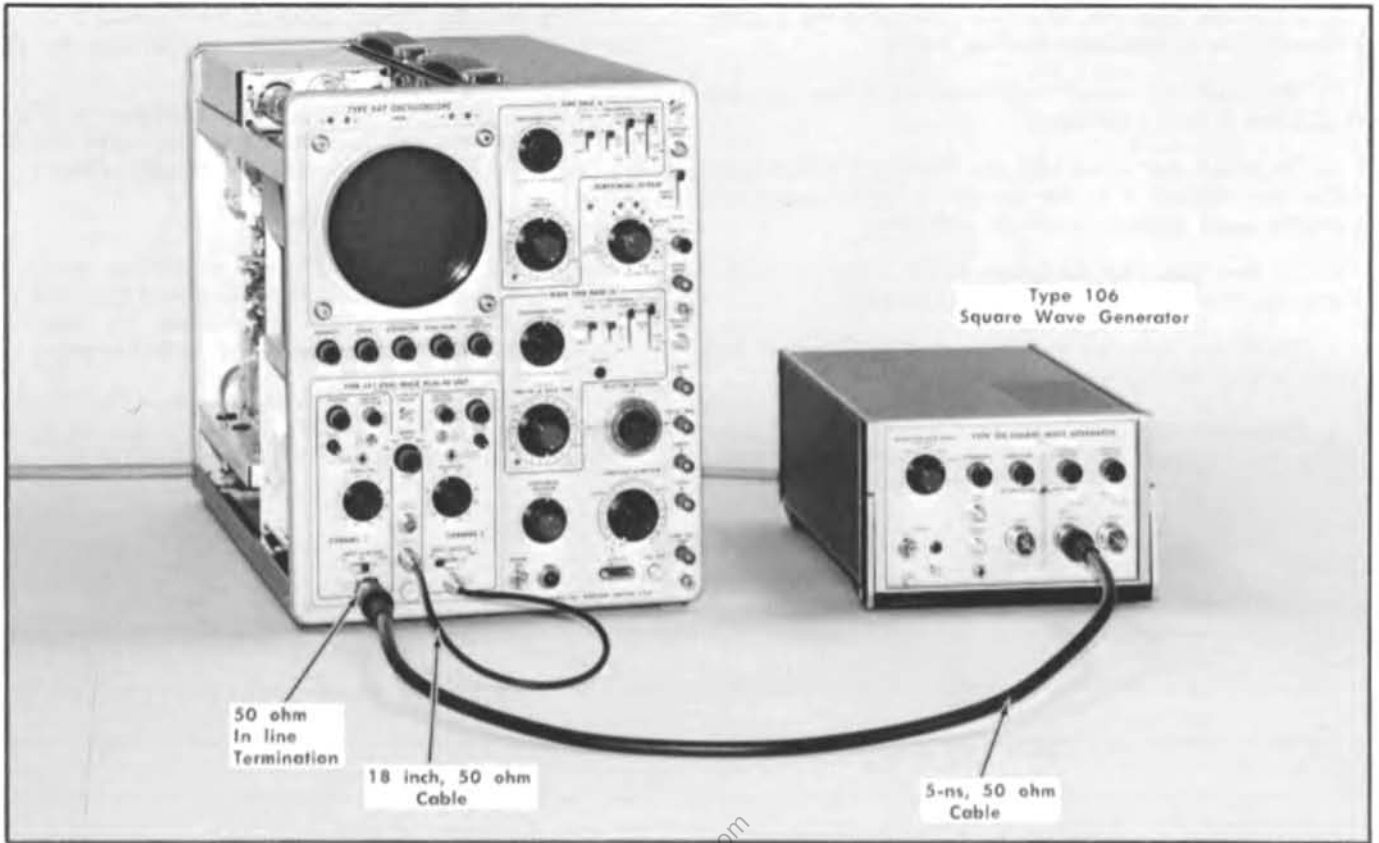

Fig. 7-36. Test equipment setup for step 26.
- Test equipment setup, with connections made to completion of step 26d, is shown in Fig. 7-36.
- Apply the 100-kHz fast-rise signal from the +Output connector on the Type 106 through a 5-ns cable and a 50-ohm in-line termination to the Type 1A1 Channel 1 INPUT connector (see Fig. 7-36).